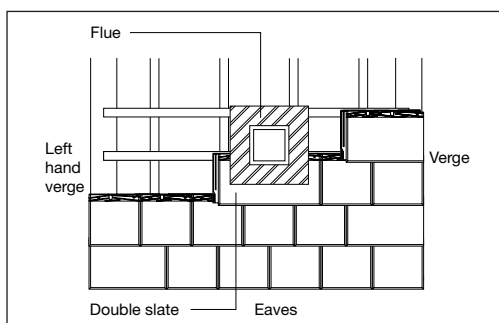

Fig 101 – Fixing subsequent courses
- Lay subsequent courses, working up roof, beginning each course from right hand verge with alternating slates and slate-and-a half slates (Fig 101).